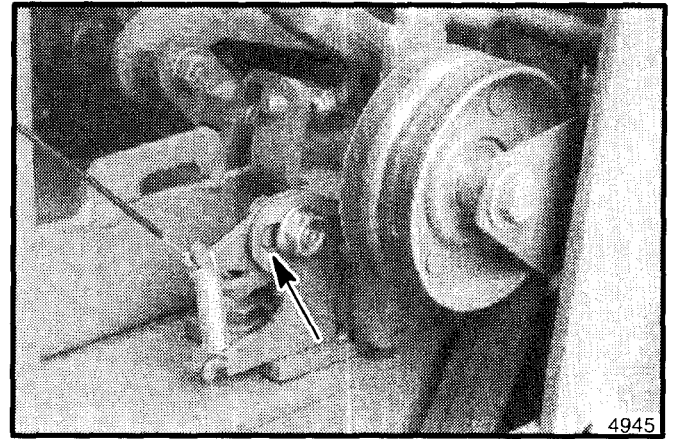

Figure 27. Idler Assembly Hook
1. Loosen the hardware securing the hook (see figure 27). Slide the hook in the slot so that it captures the reel idler assembly when the clutch control is disengaged. When only the drive clutch is engaged, the hook should hold the reel idler assembly back far enough that the reel belts will not engage. Retighten the hook mounting hardware.